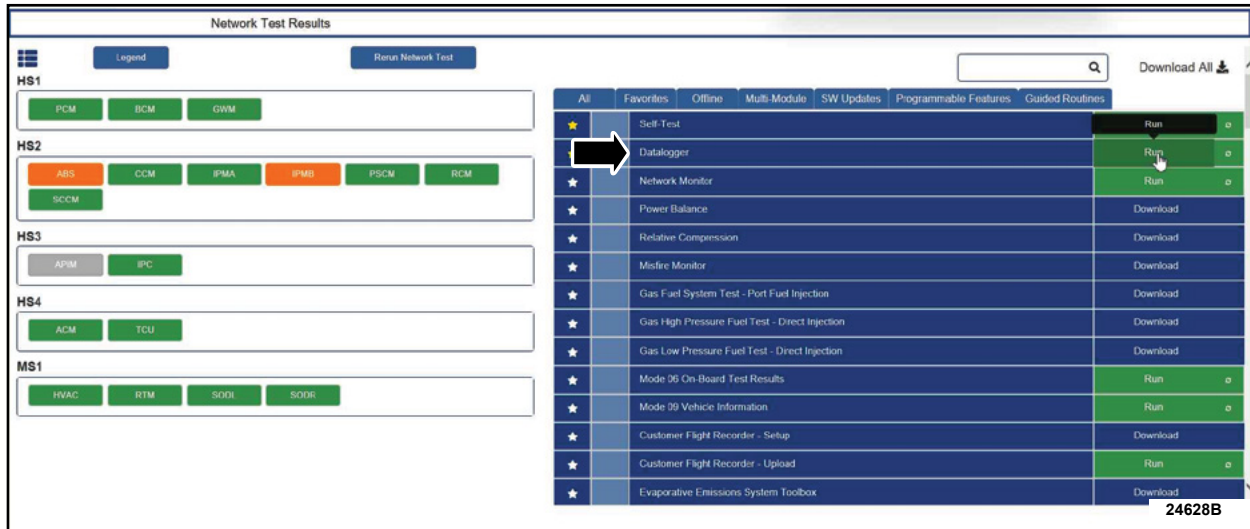

FIGURE 2
8. On the RH side of the screen locate Datalogger and select **RUN**. See Figure 2.